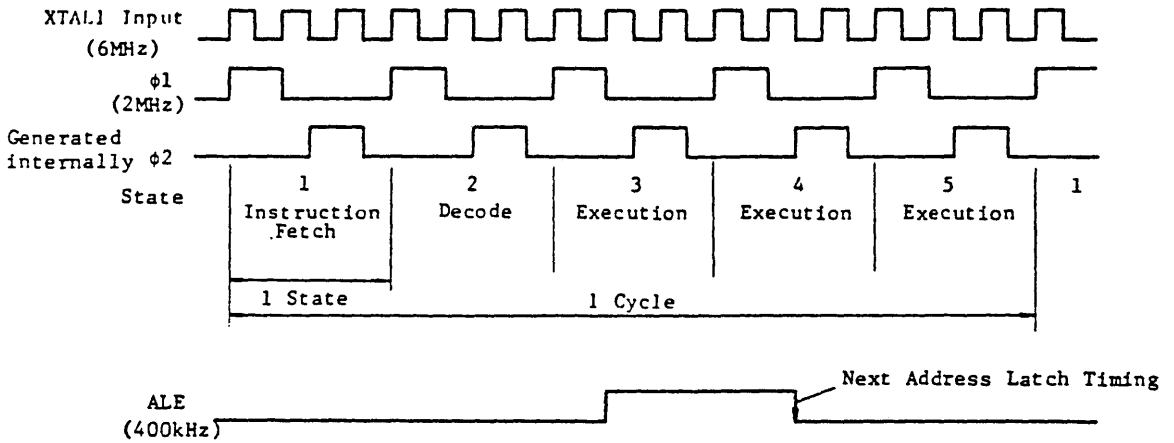

Fig. 4 Instruction Cycle Timing
(1) Instruction Cycle
- . Fig. 4 illustrates its relationship with the clock input to CPU.
- . $\phi 2$ clock shown in Fig. 4 is derived to outside by ENT0 CLK instruction.
(2) External Memory Access Timing